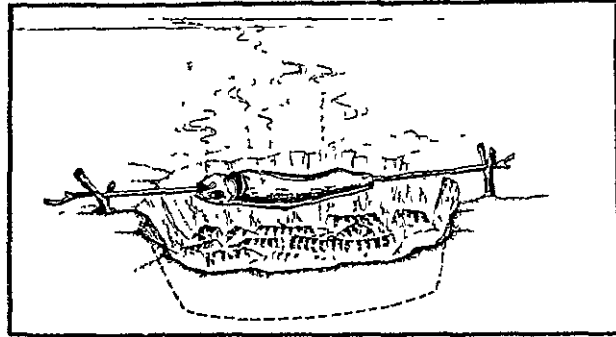

Figure 101. Pit fire.
h. Cooking: If large game has been killed, the stomach or skin can be made into a cooking vessel after being cleaned. Fasten three strings into holes made in the top wall of the open stomach or skin pouch and tie to the apex of a tripod made of sticks. Fill with water and bring to boiling point by putting in fire-heated stones. If sticks are not available and if the ground is not too wet or stony, the skin or stomach pouch can be used as a liner for a hole in the ground. Then fill with water and place fire-heated stones in it. Meat and fish can be stuck onto a sharpened green stick and roasted over a fire. Small animals and birds can be roasted easily. Draw and skin them and wrap in leaves, clay, or mud. Bury them in a pit, the bottom of which is lined with heated stones. Fill pit with dirt. In the morning when the pit is opened, you will find the meat well cooked and hot. Larger game can be prepared the same way by cutting into small pieces (figures 101 and 102).